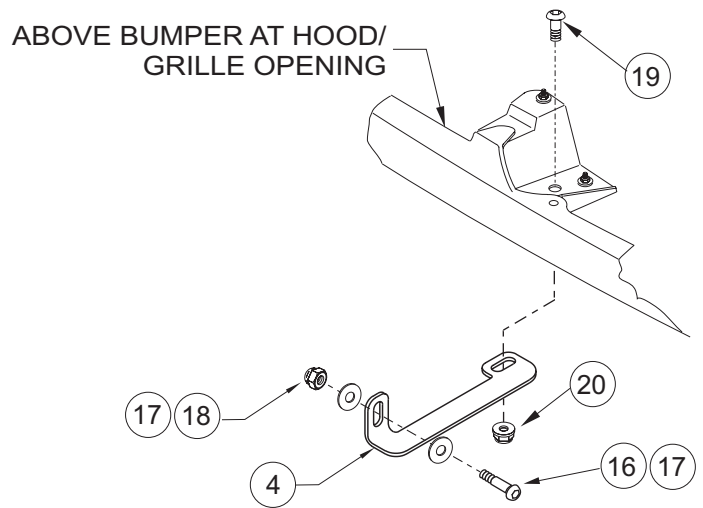
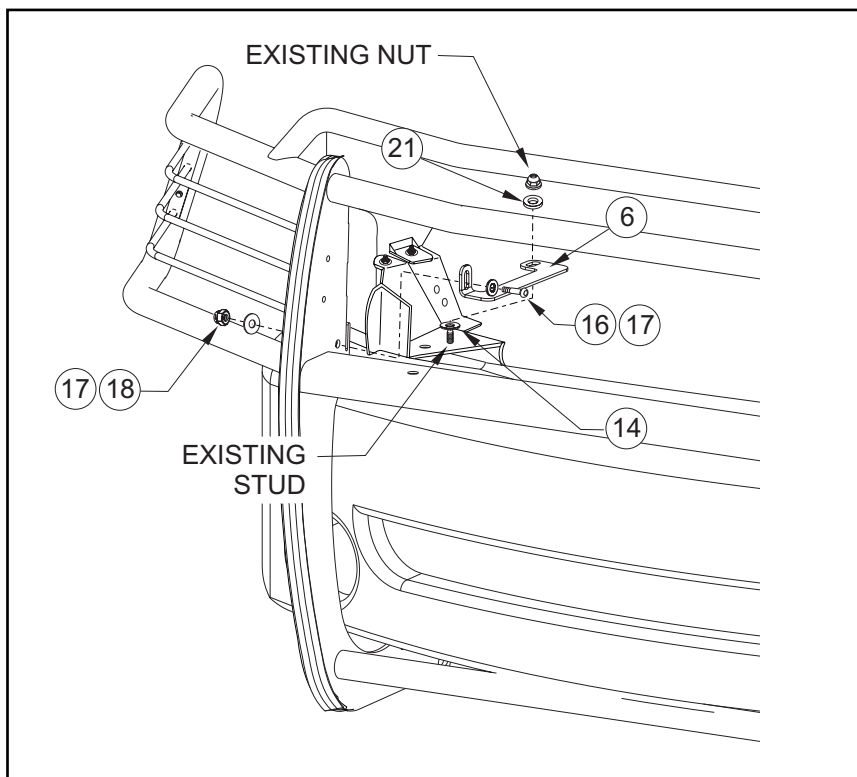

FIGURE 3
FIGURE 6
- STEP 6.** Open vehicle hood. 1999-02 models: Fasten braces to front hole on front end panel as shown. **SEE FIGURE 3 AND 4.** Leave loose. 2003-UP models: Remove 10mm nut from stud on front end panel and fasten brace as shown. **SEE FIGURE 6.** Leave loose.
STEP 8. Attach top support braces to uprights using 3/8" fasteners. Hand tighten. **SEE FIGURES 3,4 AND 6.**